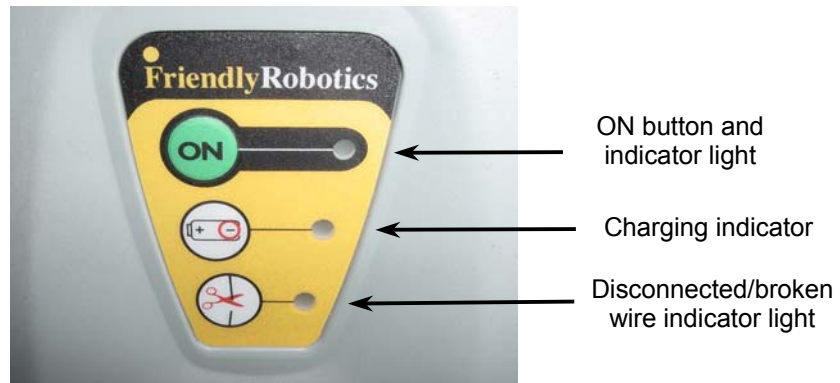

Figure 1.27 – Docking Station Control Panel
- The Docking Station operating panel also has indicators for charging and for a disconnected/broken perimeter wire (Figure 1.27).